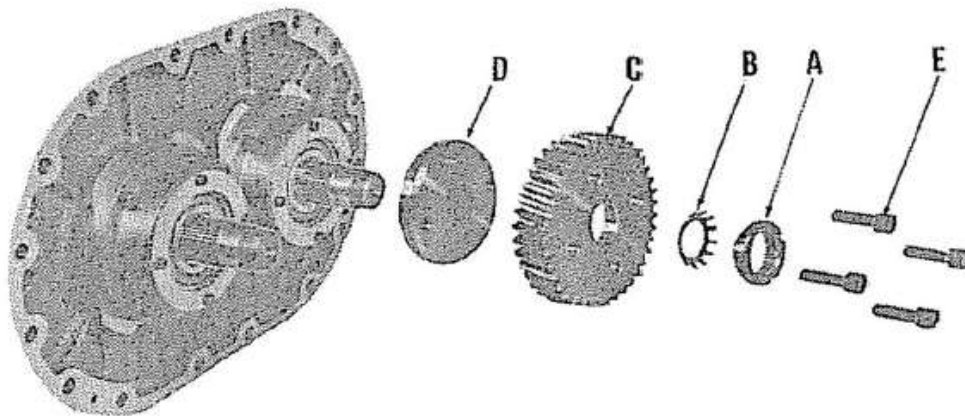

Fig. 16
2. Refer to figure 16. If shim spacers (**A**) were added during production, they will now be exposed behind the bearing cartridge (**B**) on the gear end of the unit. The spacers have been installed to assure accurate positioning of the impellers between the headplates; hence, it is important that they be returned to their exact positions on reassembly. Accordingly, match mark the spacers at this point and be prepared to detach them on removing the four socket head cap screws (**C**) which hold the bearing cartridge in position. After this has been accomplished insert two long bolts (**D**) as indicated and tighten against the headplate, applying equal turns to each bolt to assure an even withdrawal of the cartridge. Detach the cartridge and remove the bearing retaining ring from the face of the cartridge.